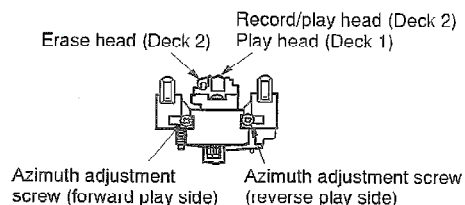

Fig. 6
3. Forward play the azimuth adjusting portion (8 kHz, -20 dB) of a test tape (QZZCFM) and adjust the azimuth adjustment screw so the output at the left and right channels is at the maximum. (See Fig. 6.)